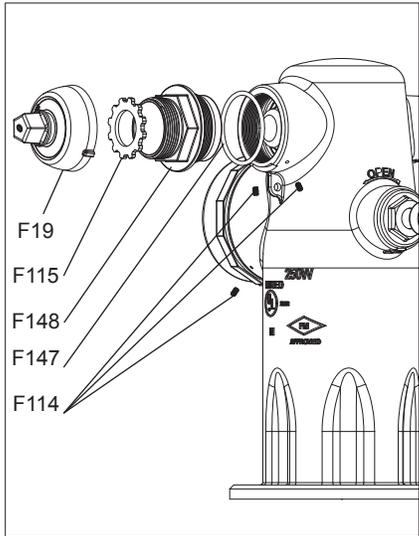
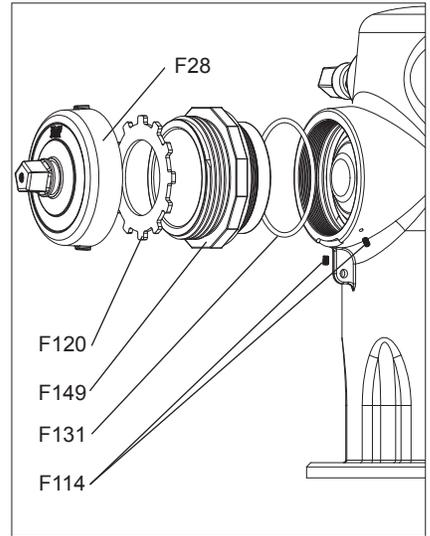
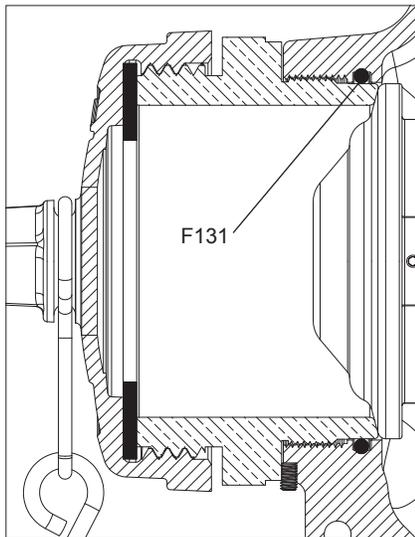

Fig. 3A
Fig. 3C
Fig. 3E
NOZZLE DISASSEMBLY FOR INSPECTION: FIGURES 3A-3F
3. Use a drift punch and hammer to install a new Nozzle Retaining Screw (F114), as shown in Fig. 3C or Fig.3E.
4. Use a 7/64" or (3mm) Allen wrench to install new Nozzle Retaining Screws** (F114), as shown in Fig. 3A or Fig.3C.